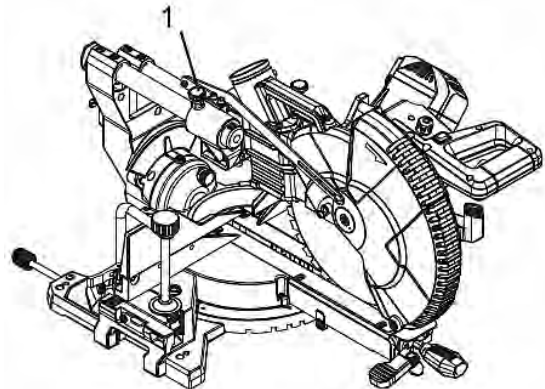

Fig. 11: Unlocking the sliding carriage
Step 1: Insert a rear support rod (1) into the hole (2) at the back of the base.
Step 2: Thread the screw (3) into the hole next to the mounting hole.
Step 3: Tighten the screw (3) with a screwdriver.
7.5 Unlocking the sliding carriage (Fig. 11)